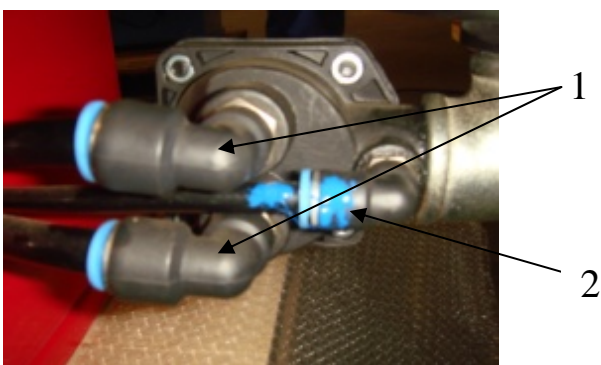
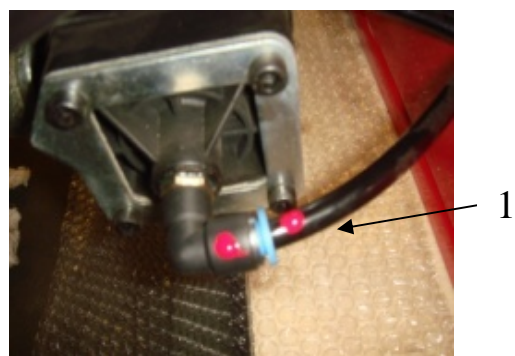

Fig 2
Fig 3
3.2.1.2 Under the air tank, there are 4pcs air hoses needed to connect, among them , 2pcs $\phi 12$ (2—1) air hose no need to be inserted into the installation position and the other 2 pcs $\phi 8$ hoses (2—2), (3—1) , the fittings with the same color, need to be installed as per the color . The installation should be in reference to Fig2 and Fig3.